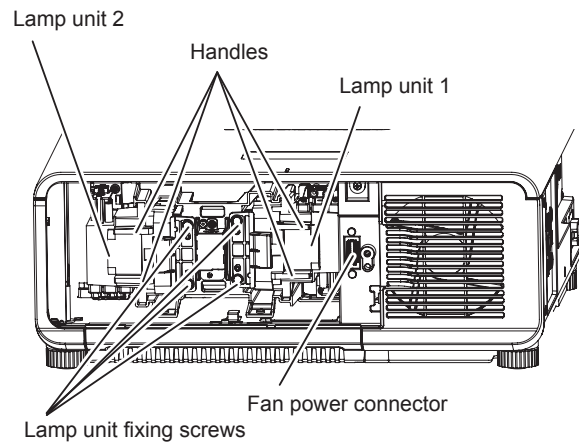

Fig. 2
#### 2) Pull out the air filter case. (Fig. 2)
- 3) **Remove the lamp unit. (Fig. 2)**